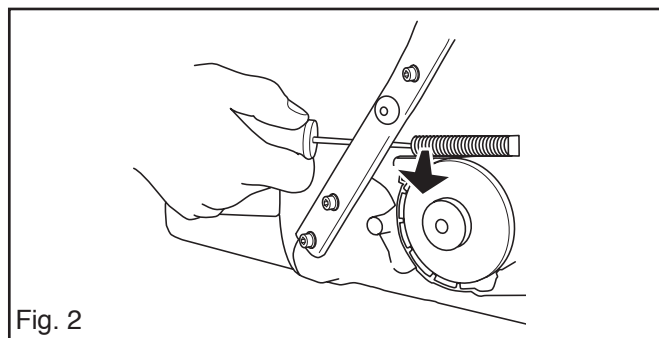

Fig. 2
5. Remove the pressure spring by freeing the back end with a screw driver. See fig. 2.